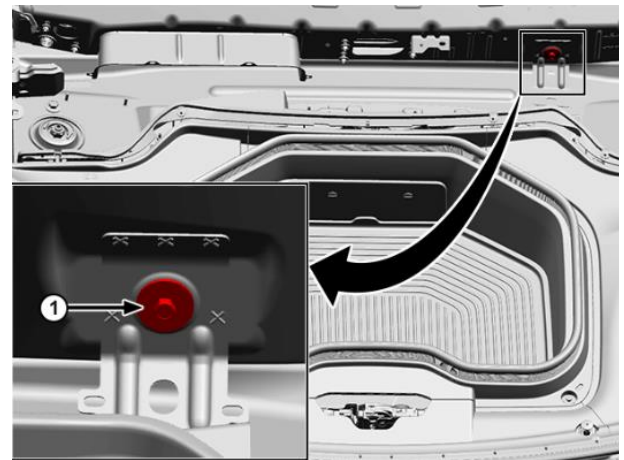

Figure 1 – CCB to Dash Panel Bolt
4. Remove the cross car beam (CCB) to instrument panel bolt (1) (Figure 1).